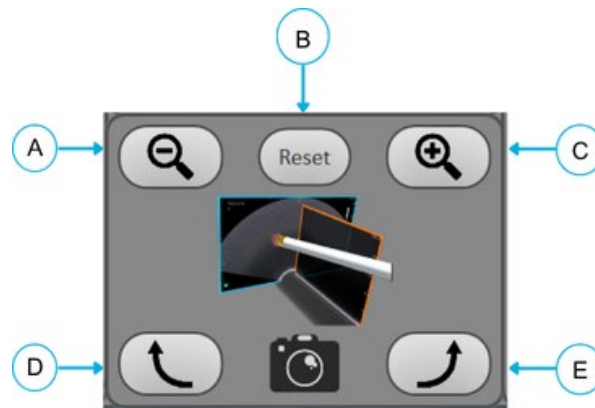

Figure 7-25: 3D View Menu
2. Locate the 3D View menu on the displayed Settings screen (see **Figure 7-25**).